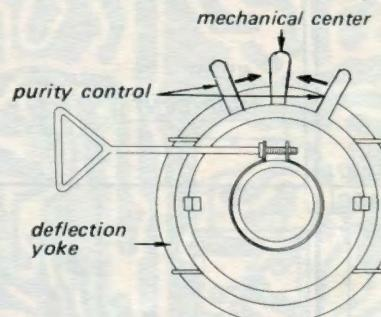

Fig. 3-1.
2. Set purity control as shown in Fig. 3-1.